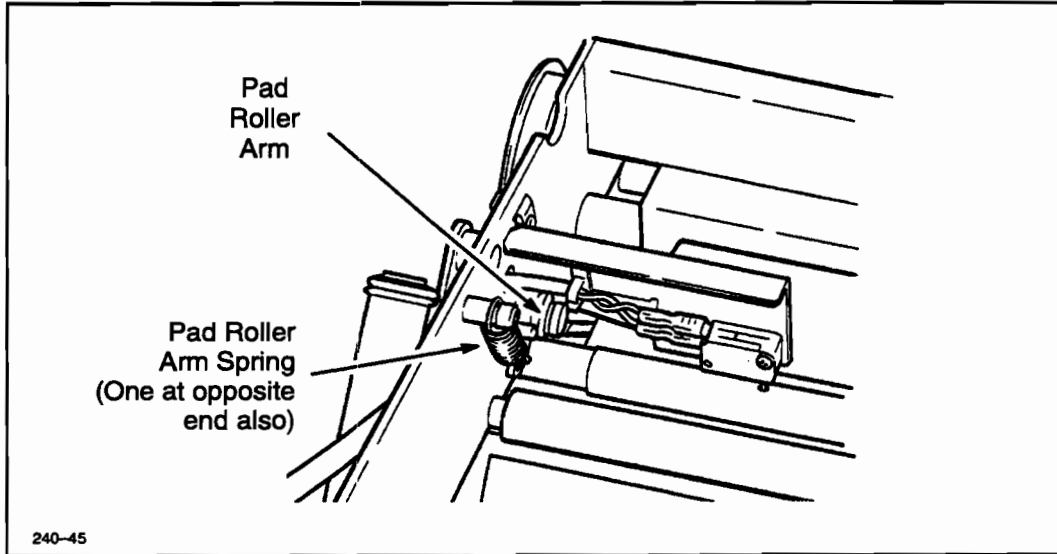

Figure 6-69. Pad Roller Removal
5. Release the two pad-roller arm springs. See Figure 6-69.